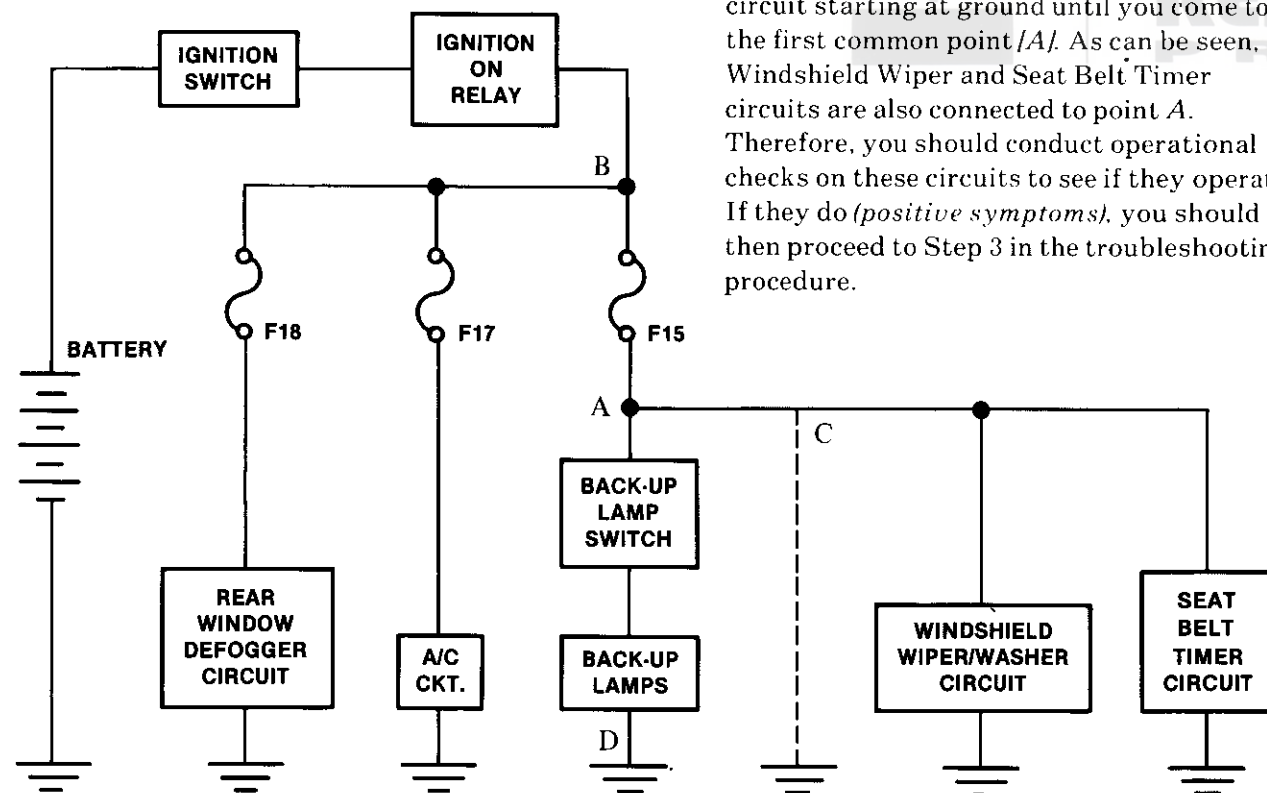

Fig. 1
Determining related symptoms is a very important step. It will save you much time in the long run. In order to get additional information about where the problem exists, *related symptoms* are found by conducting *operational checks* on circuits which are connected to the problem circuit. Operational checks are made *without* the use of test equipment. Your most important tool will be the *schematic*. For example, refer to Fig 1. If the customer complaint was that the Back Up Lamps didn't work, you would trace the circuit starting at ground until you come to the first common point [A]. As can be seen, the Windshield Wiper and Seat Belt Timer circuits are also connected to point A. Therefore, you should conduct operational checks on these circuits to see if they operate. If they do (*positive symptoms*), you should then proceed to Step 3 in the troubleshooting procedure.
After conducting operational checks (*Step 2*), the trouble will always lie between a check which resulted in *negative* symptoms, and a check which resulted in a *positive* symptom. Consider the following examples (*refer to Fig 1*):
6. Symptoms of Short Circuits [*refer to Fig. 1*]: